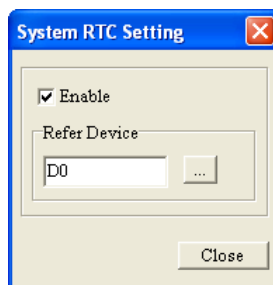

Figure 5-22 System RTC Setting window
**System RTC Setting** is used to write the time, the week, and the date in a TP series text panel to a related device. After users click **System RTC Setting** on the **Global Setting** menu, the **System RTC Setting** window will appear, as shown in Figure 5-22. After the users click  in the **Refer Device** section, the **Refer Device** window will be opened. Please refer to section 4.1.1 for more information.